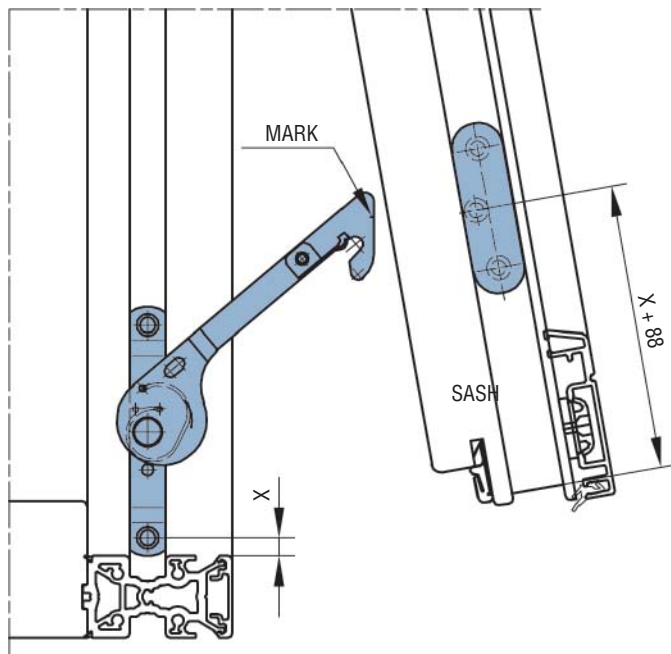

FIG. 1
**IMPORTANT:** THE RECEIVER MUST BE MOUNTED SO THAT IT HITS THE MARK ON THE RESTRICTOR ARM WHEN THE WINDOW IS CLOSED. SEE FIG. 1